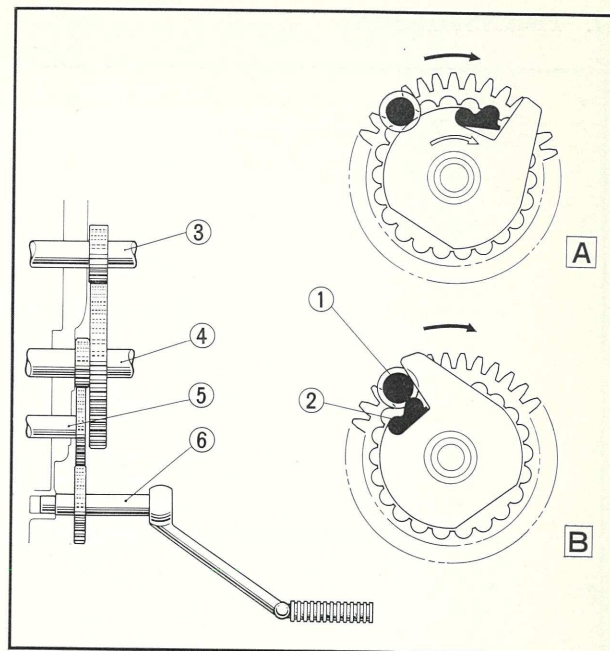

Fig. 1-29 ① Stopper bolt ④ Main shaft
This starter is operated by a ratchet mechanism. When the arm is not depressed, the pole is in contact with the stopper bolt to place the spindle and gear in disengaged position as shown in Fig. 1-29 (A). When the arm is depressed, the pole engages in the internal gear groove to allow the gear to be driven as shown in Fig. 1-29 (B). The gear then rotates the crankshaft through the crankshaft drive gear.